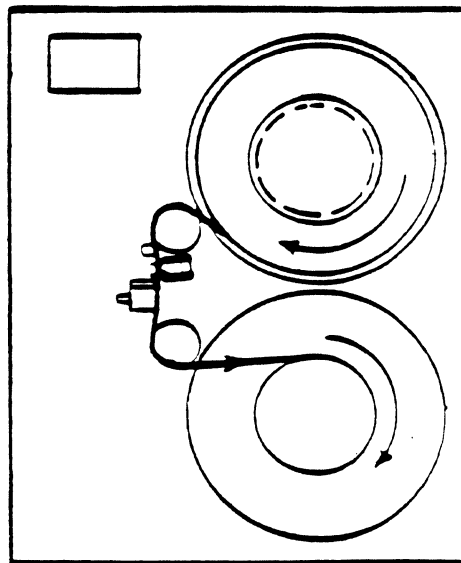

Figure 2-3. Tape Path
4. Thread magnetic tape over tape path as shown in figure 2-3.